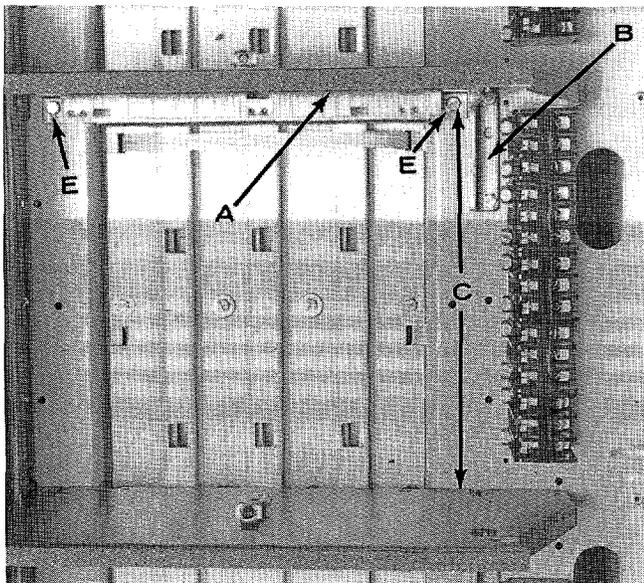

Fig. 33. Mounting the horizontal shelf assembly
1. Select the proper holes in left- and right-hand vertical steel plates for mounting the horizontal shelf (A) and support bracket (B), (Fig. 33). The vertical distance (C) is equal to the height of the unit to be installed.
2. Mount shelf assembly (A) and support bracket with  $\frac{1}{4}$ -20 self-threading screws at points (E) as shown in Fig. 33.